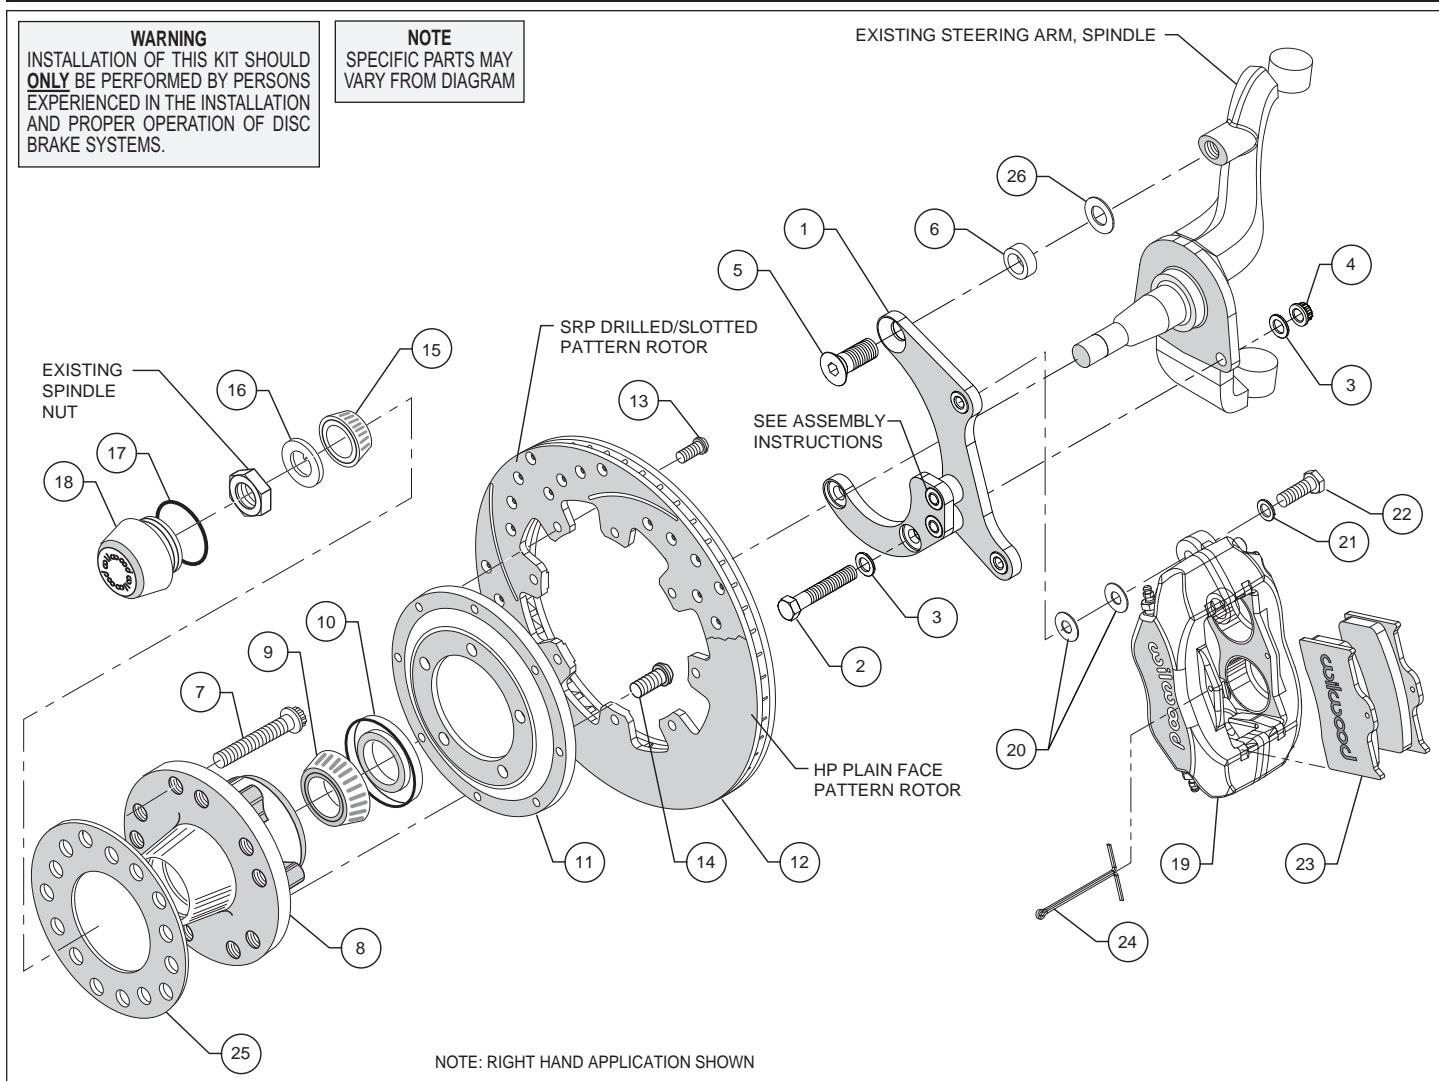
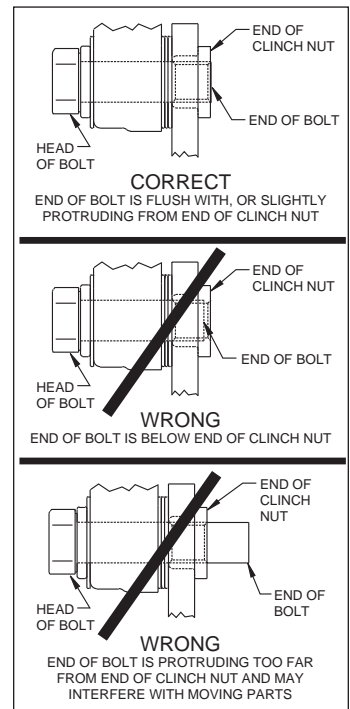

Figure 1. Typical Installation Configuration
Figure 3. Clinch Nut Engagement Diagram
**Assembly Instructions** (numbers in parenthesis refer to the parts list and Figure 1 on the preceding pages): **CAUTION:** All mounting bolts must fully engage clinch nuts. Be sure to check that all bolts are either flush or protruding through flanged side of clinch nut after shimming, Figure 3.
- The caliper mounting bracket (1) has been assembled at the factory for alignment purposes. Loosen the two bolts that secure the brackets together so that the bolts are hand tight only, this will enable the bracket assembly to be adjusted to accommodate various spindle tolerances during assembly. Align bracket with the two lower holes on the spindle face and attach using bolts (2), washers (3), and secure using lock nuts (4), as shown in Figure 1 and Photo 1. Install bolt (5) through top of bracket while placing spacer (6) between bracket and spindle, Figure 1. Ensure that the flanged heads of the clinch nuts in the bracket are facing outboard, Photo 1. Temporarily tighten the mounting bolts.
- Check that the bracket is aligned parallel to the rotor by assembling and installing the hub/rotor per the step below. If not, add shims (26) between the spacer (6) and the spindle to align the bracket, Figure 1.
- Pack the large inner bearing cone (9) with high temperature disc brake bearing grease (available from your local auto parts store) and install into the backside of the hub (8), Photo 3.
- Install the grease seal (10) by pressing into the backside of the hub (8), flush with the end of the hub, Photo 3.
- Orient the rotor (12) and the rotor adapter (11) as shown in Figure 1 and Photo 4. Attach the rotor to the adapter using bolts (13). Using an alternating sequence, apply red *Loctite*® 271 to the threads, and torque to 25 ft-lb.
- Mount the adapter/rotor assembly (11/12) to the hub (8) using bolts (14), as shown in Figure 1 and Photo 5. Using an alternating sequence, apply red *Loctite*® 271 to the threads, and torque to 45 ft-lb.
- Pack the small outer bearing cone (15) with high temperature disc brake bearing grease and install into hub (8). Slide the hub/rotor assembly onto the spindle. Secure using spindle washer (16) and OEM spindle nut, Photo 6. Adjust bearings by tightening the wheel bearing nut to 60 **in-lbs.** while turning the hub/rotor assembly (11/12). Install saved OEM nut lock (if any) on the wheel bearing nut with one pair of slots in-line with (covering) the cotter pin hole. Back off the adjusting nut lock assembly (or castle nut) one slot and install a new cotter pin (not supplied). **The resulting adjustment should be zero (no pre-load to 0.003 inch end play).**
- Screw dust cap (18) into hub (8), Photo 7. Friction created by the o-ring (17) on the dust cap keeps it from unscrewing. **NOTE:** The O.D. of the existing OEM spindle washer may be larger than the I.D. of the dust cap not allowing it to seat against the hub face. Therefore, use the spindle washer (16) supplied with the kit instead of the OEM washer.
- NOTE:** Please reference the caution statement at the beginning of the assembly instructions. Mount the caliper (19) onto the caliper mounting bracket (1) using bolts (22) and washers (21), as shown in Figure 1. Initially place two .035" thick shims (20) on each bolt between the caliper and the bracket, Photo 8. Temporarily tighten the mounting bolts and view the rotor (12) through the top opening of the caliper. The rotor should be centered in the caliper, Photo 9. If not, adjust by adding or subtracting shims between the bracket and the caliper. Always use the same amount of shims on each of the two mounting bolts. **NOTE:** The end of each bolt must be flush with or slightly protruding from the head of the clinch nut, as shown in Figure 3. If necessary place spare shims between washer (21) and caliper mounting ear to achieve the proper clinch nut engagement. Once the caliper alignment and clinch nut engagement are correct, remove the bolts one at a time, apply red *Loctite*® 271 to bolt threads, and torque to 40 ft-lb.
- Install the disc brake pads (23) into the caliper, with the friction material facing the rotor (12), and secure in place using cotter pin (24), Photo 10.